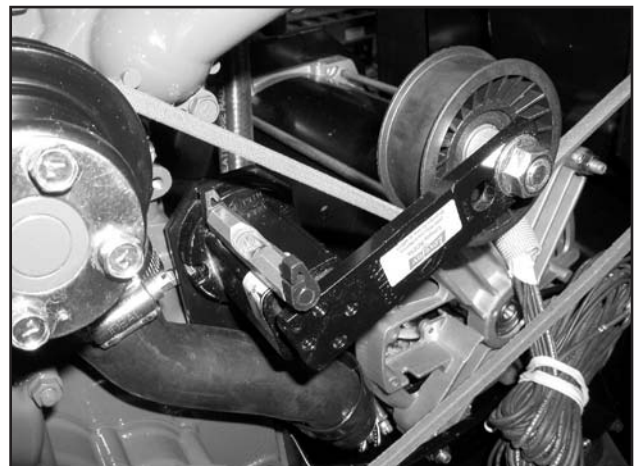

Figure 8-8. – Leveling Fan Belt Tensioner
2. Using a small bubble level, verify that tensioner is level horizontally. If needed, tap the mounting bracket to level it (see Figure 8-8).